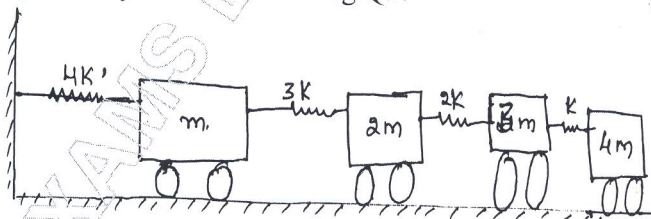

Fig.Q9 (16 Marks)
- 9 Using Stodola method, determine the lowest natural frequency of the four degree of freedom of spring mass system shown in Fig.Q9.